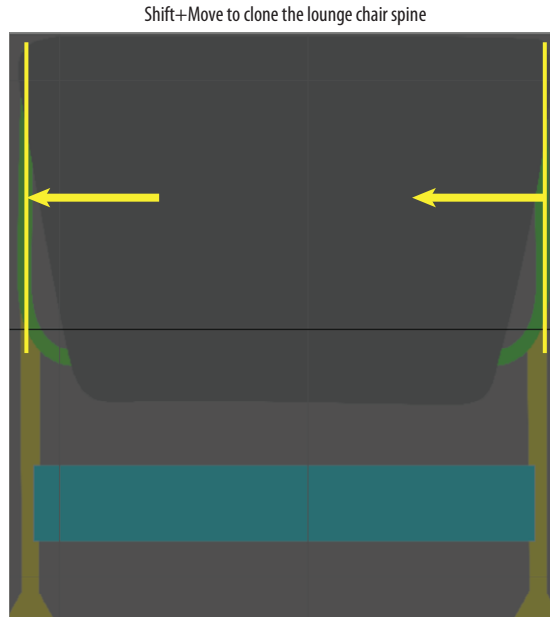

FIGURE 4.22 Shift+Move to clone the chair spline so it lines up with the chair frame on the left.
14. Switch to the Move tool (W) and select the spline. Move the spline to align it with the edge of the image plane.
15. Then, in the Front viewport, Shift+Move and align the spline to the frame of the chair on the left side, as shown in Figure 4.22.